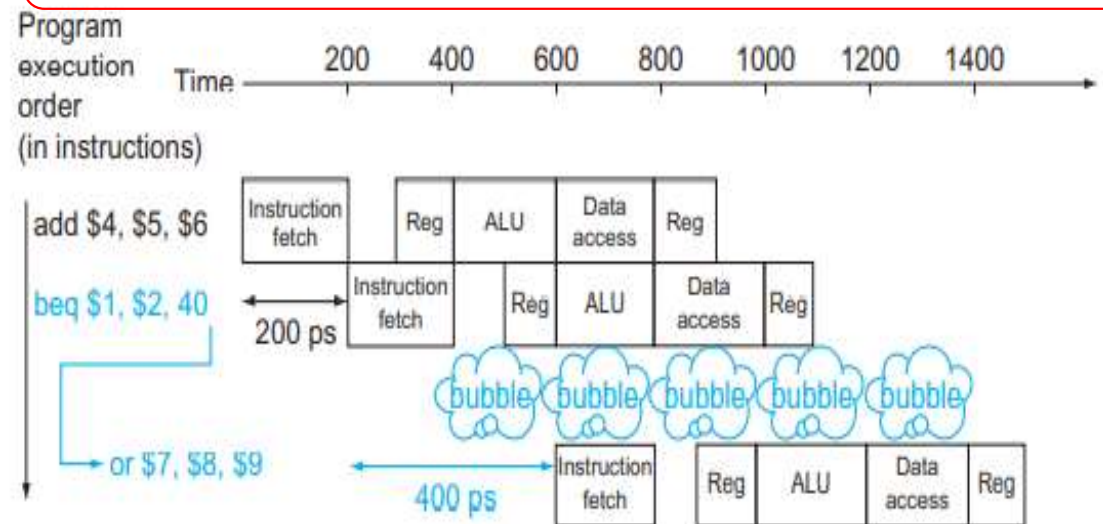

FIGURE 32 Predicting that branches are not taken as a solution to control hazard.
- Only when branches are taken does the pipeline **stall**. Figure 32 shows such an example.